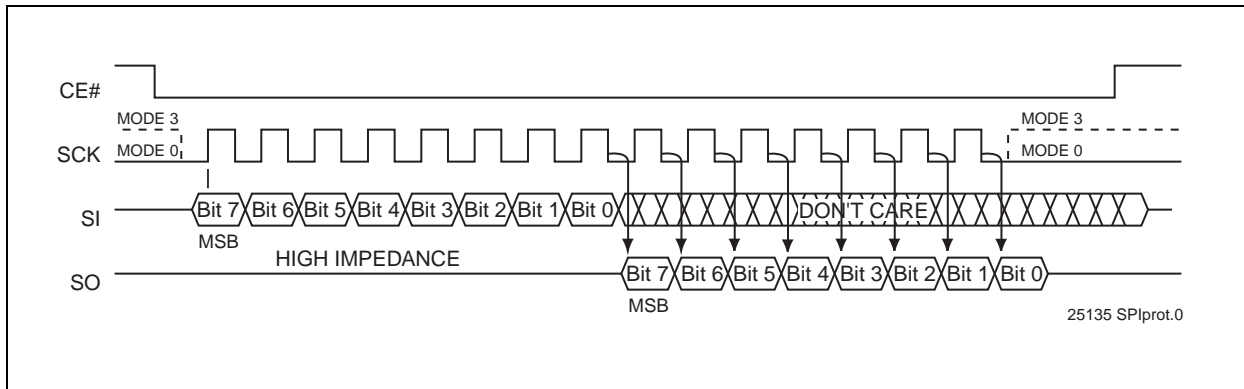

FIGURE 4-1: SPI PROTOCOL
The SST25PF020B supports both Mode 0 (0,0) and Mode 3 (1,1) of SPI bus operations. The difference between the two modes, as shown in Figure 4-1, is the state of the SCK signal when the bus master is in Standby mode and no data is being transferred. The SCK signal is low for Mode 0 and SCK signal is high for Mode 3. For both modes, the Serial Data In (SI) is sampled at the rising edge of the SCK clock signal and the Serial Data Output (SO) is driven after the falling edge of the SCK clock signal.